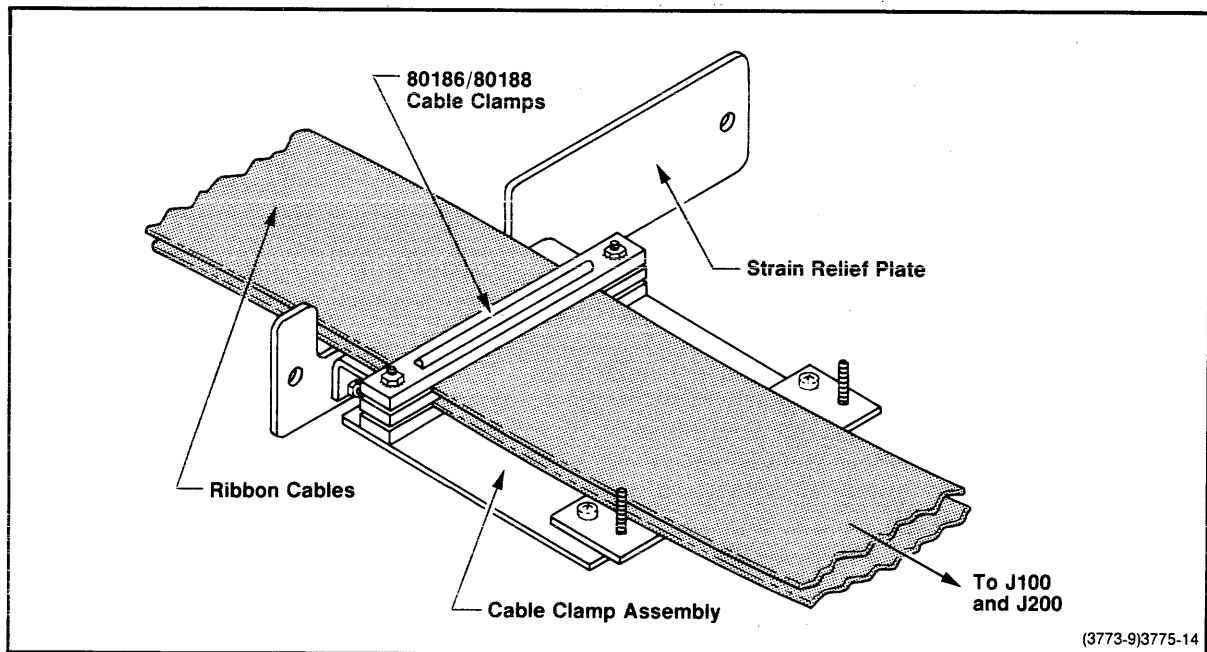

Fig. 6-6. Ribbon cable installation.
9. Mount the two 6-foot prototype control probe ribbon cables to the cable clamp assembly using the new clamps provided. Secure the cable clamps with hex nuts and lock washers. Refer to Fig. 6-6. Allow enough ribbon cable to reach connectors P100 and P200 on Board II in J15 of the Main Interconnect Board in the development system's card cage.